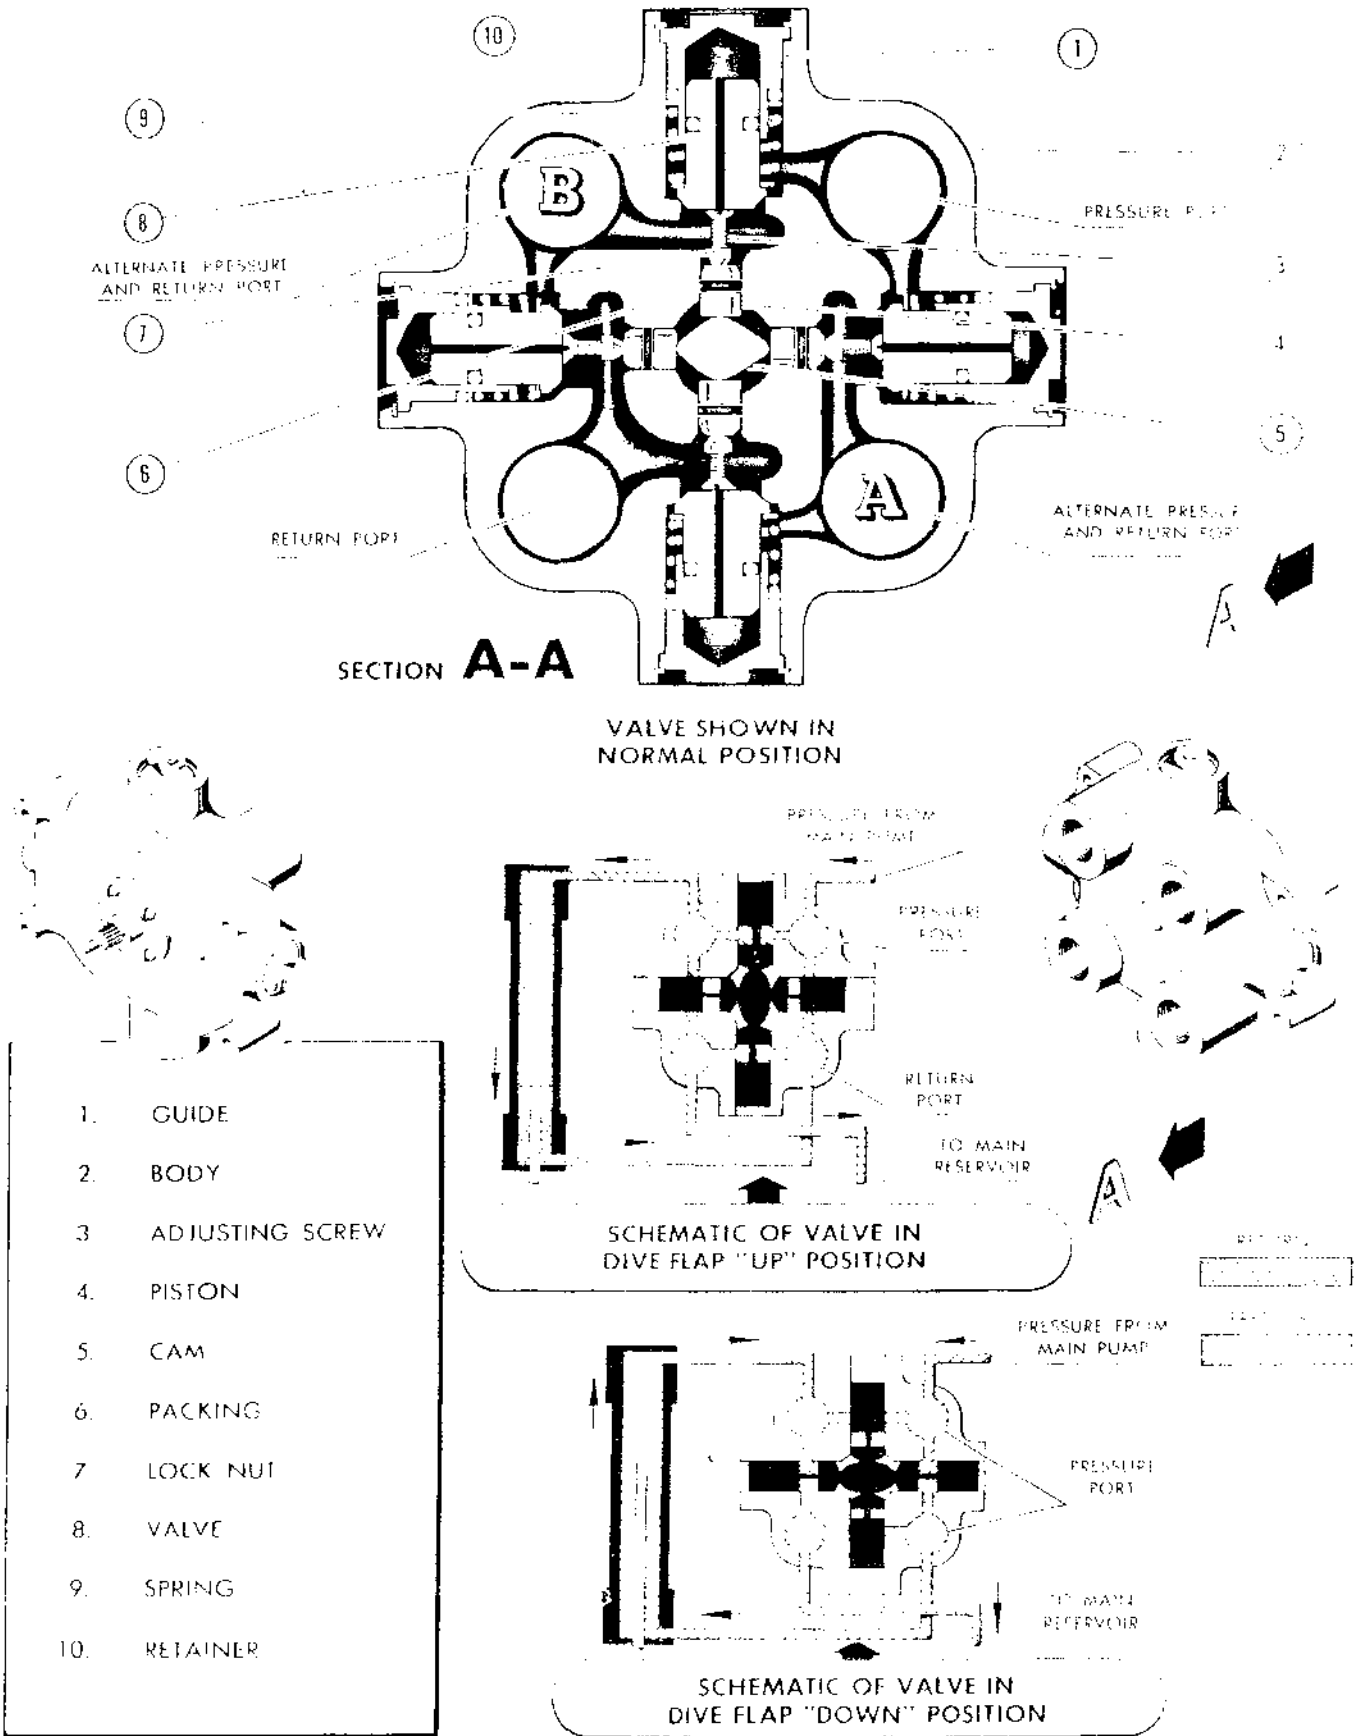

Figure 172A — Dive Flap Selector Valve
(4) SELECTOR VALVE.—The dive flap selector valve is identical to the unit used in the alighting gear
system. For information on this part, see figure 172A and paragraph c(2) preceding.